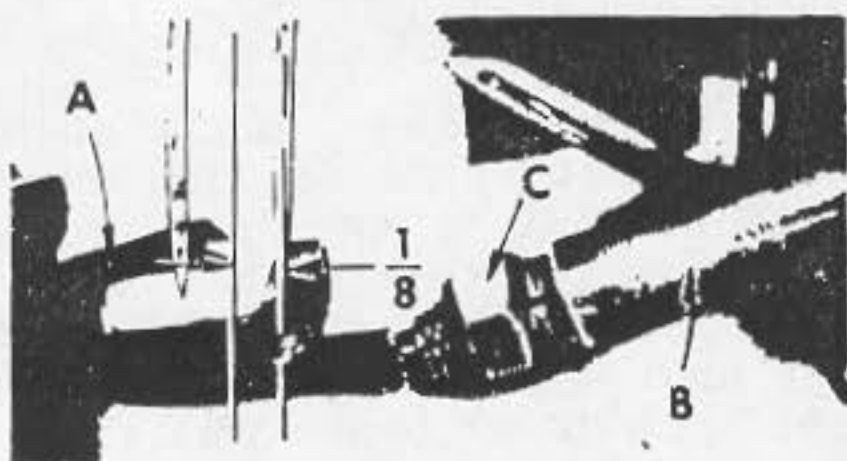

Fig. 4
Insert the lower spreader (A, Fig. 4) into bar (B). With lower spreader at left end of its stroke, set spreader point $\frac{1}{8}$ inch from centerline of right needle (Fig. 4) using gauge No. 21225- $\frac{1}{8}$. Do not have lower spreader deflecting needle. Do not lock nut (C) because the spreader point will have to be set to the needle scarf after the rear needle guard has been assembled and positioned. (See paragraph under "Final Setting of Lower Spreader").
is obtained by rocking the spreader forward or backward around its shank. Recheck the $1/8$ inch spreader gauge setting and tighten nut (C, Fig. 4).